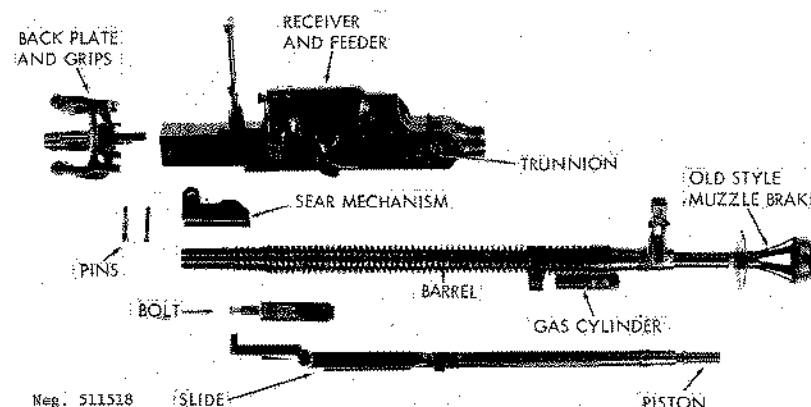

Figure 219. DShK-38 field stripped.
b. To mount the gun, open the trunnion caps by loosening the cap wingnuts and swing the caps open. Place the gun trunnions (fig 219) into their seats, close the trunnion caps, and tighten the wingnuts. Place the rear end of the receiver into the mount and secure it with the mounting pin.